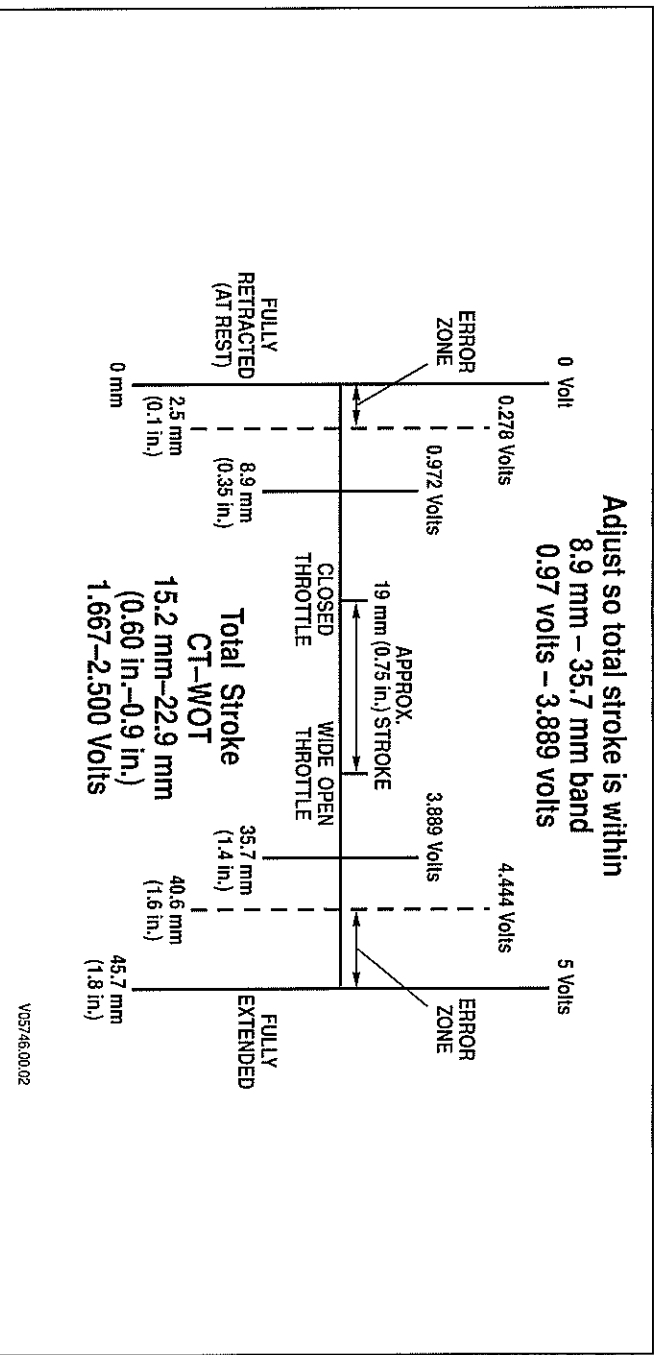
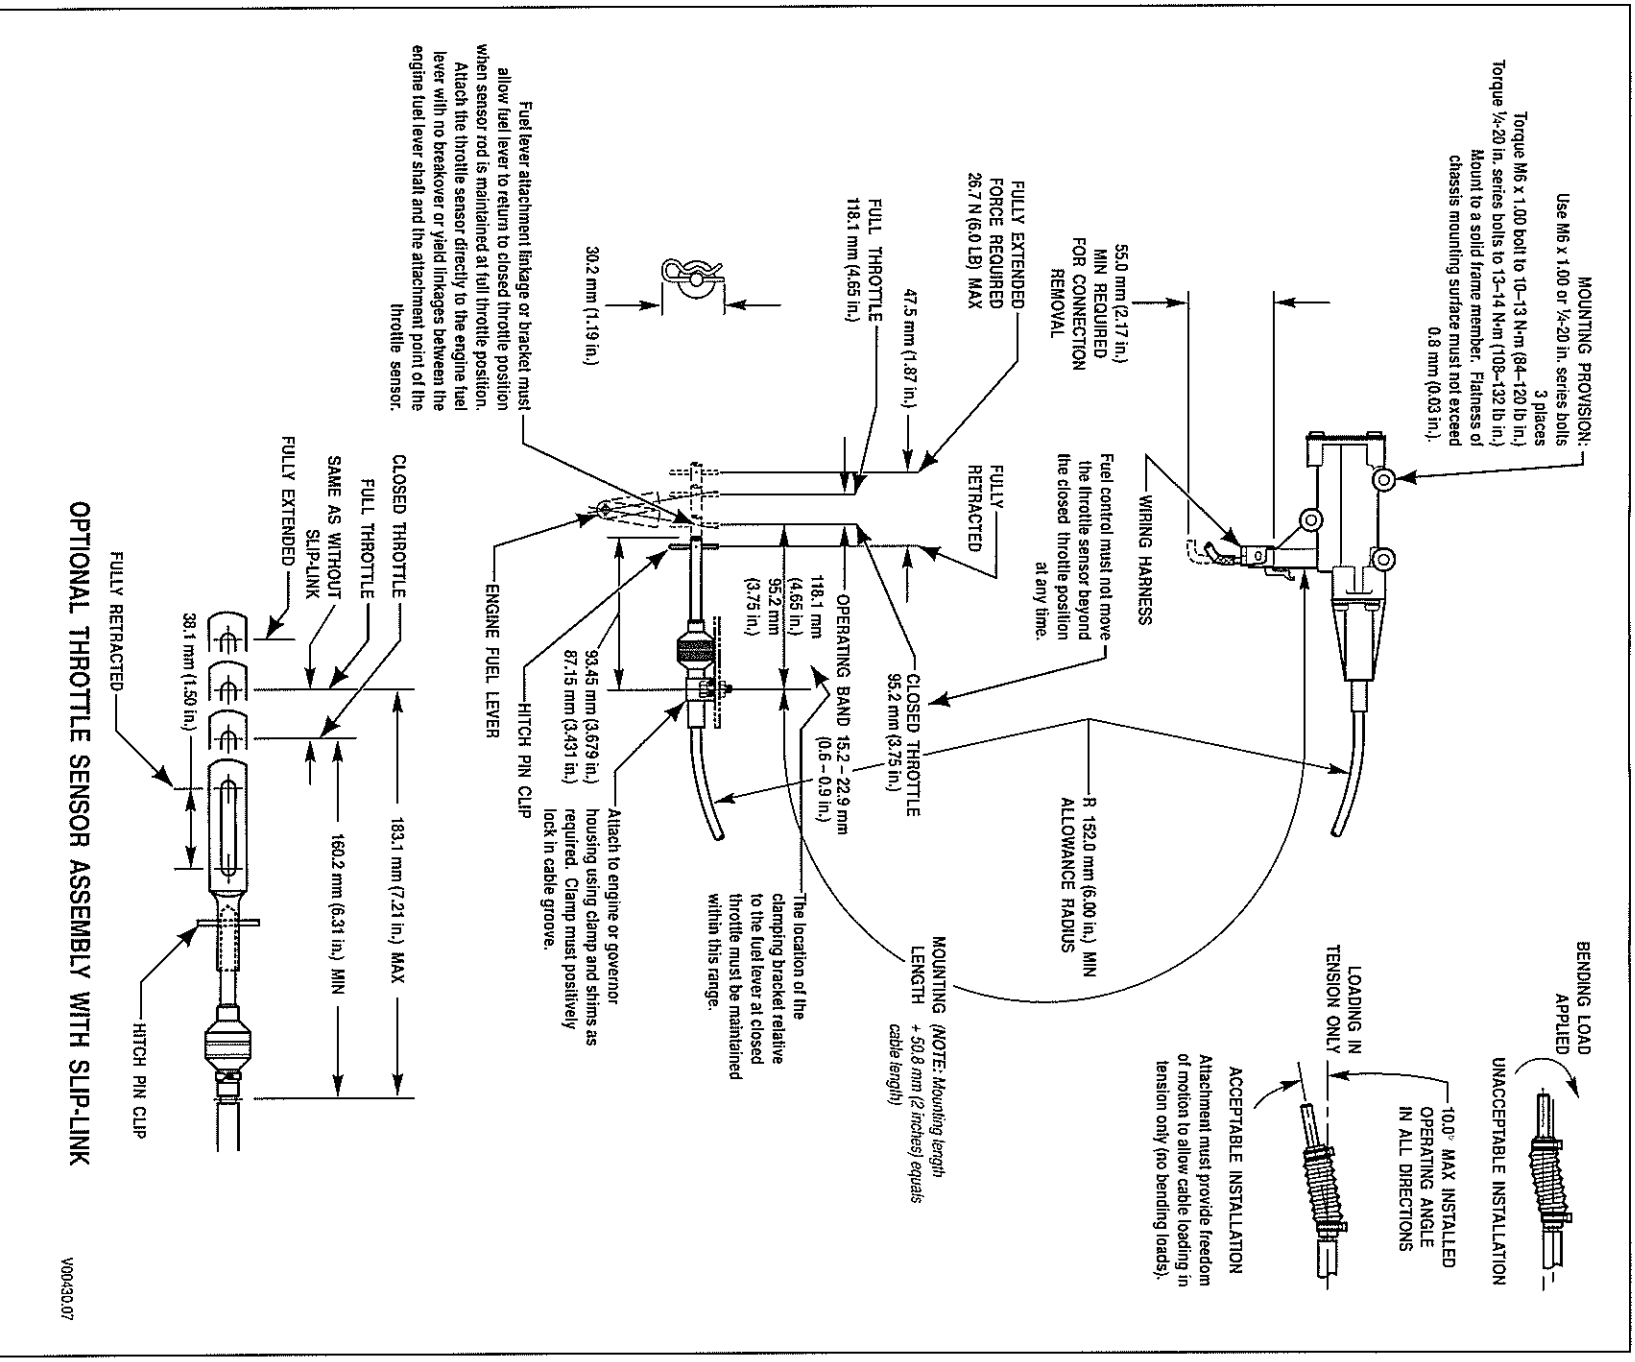

Figure F-2. Throttle Position Determination Diagram
Figure F-3. Throttle Position Sensor Adjustment
- Each position gives a different voltage. The TCM then converts this voltage into percent. Each millimeter of travel converts to approximately 0.110 volts. Figure F-2 diagrams the voltage and throttle movement relationship.
When properly installed by the equipment manufacturer (Figure F-3), the TPS should not require adjustment. Confirm that the throttle sensor is installed to manufacturer specifications before adjusting the throttle position sensor. The idle position should be approximately 8.9 mm or 0.97 volts or higher, and full throttle position should be approximately 35.7 mm or 3.889 volts or lower. The TPS is self-calibrating, meaning there is no optimum closed position or wide open position. As long as the travel is within the 8.5–35.7 mm range the TPS is set properly. A total stroke of 15.2–22.9 mm **must be maintained**. Watch the movement of the throttle sensor as the controls move it through its full stroke. Be sure there is no misalignment or obstruction to smooth movement through the full stroke. Make certain the idle and full throttle positions are not in the error zones (Figure F-2). The error zones occur when the idle position is less than 2.5 mm, or when the full throttle position is more than 40.6 mm. When idle or wide open throttle positions are in the error zones, the TCM will log a code. When a TPS code is logged, the TCM assumes a default throttle setting which will negatively affect shift quality.